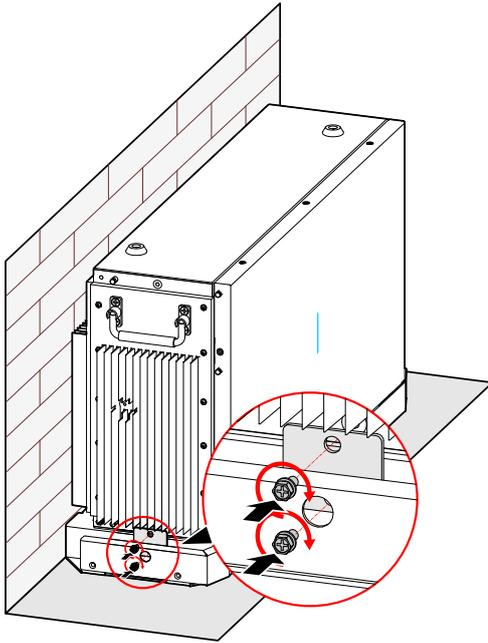

Figure3-20 Fix the bottom battery pack with base
1. Fix the bottom battery pack with base by wall bracket (b), as shown in Figure3-20.